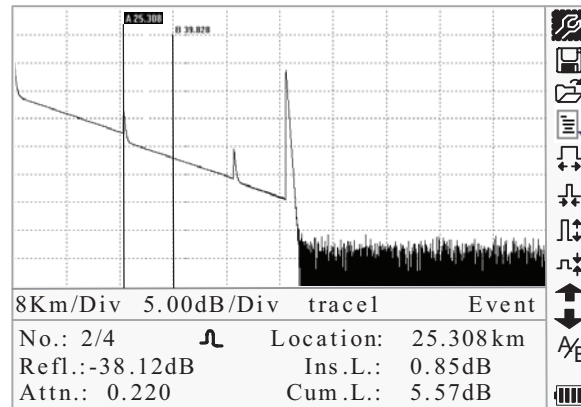
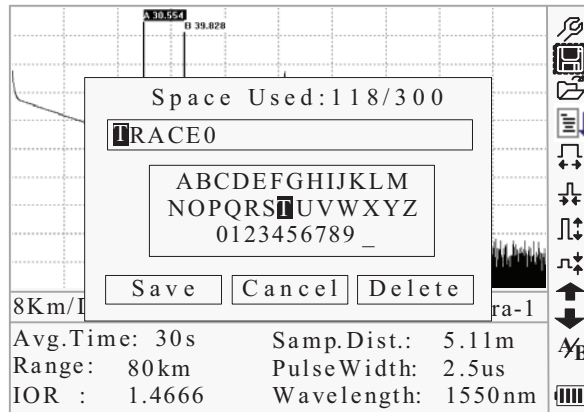
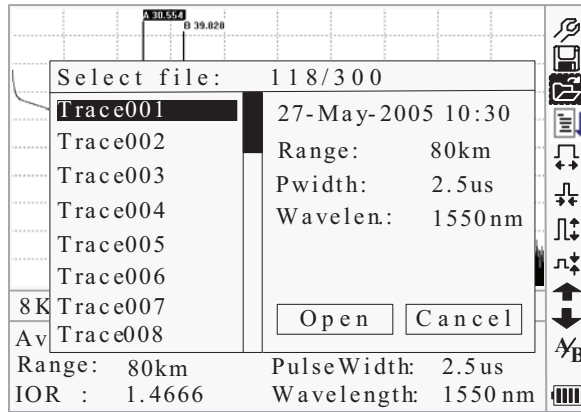

Figure 4-4. Trace Measurement of palmOTDR
Figure 4-5. Save Trace
Figure 4-6. Browse Saved Traces
- After a certain period of time, the trace displays on the GUI. The trace in the Figure below is a trace during measurement, which will be refreshed for every certain period of time to demonstrate the whole process to users in real time. But at the end of measurement, the trace will be final, as shown in Figure 4-4.
Under GUI of Figure 4-4., press [] and the items of information window will display in circulation: measurement parameter→ analysis information→ Event list→ information of marker A/B →fiber →measurement parameter.
Under GUI of Figure 4-4, press [, items in information window will switch to event list information.
Under GUI of Figure 4-4., use [] and [] to highlight ^{A/B}, and then press [Enter] to switch between marker A/B.
Under GUI of Figure 4-4., press [] switch information window to marker A/B.
- Under GUI of Figure 4-4.,use [] and [] to highlight ,then press [Enter] to zoom in trace horizontally; or to zoom in trace horizontally by the combining hot key [**Shift**/]+[] in the keyboard
Under GUI of Figure 4-4., use [▲] and [▼] to highlight , and press [Enter] to zoom out trace. or to zoom out trace horizontally by the combining hot key [Shift/⌘]+[◀] in the keyboard.
- Under GUI of Figure 4-4, press [▲] and [▼] to highlight , then press [Enter] to zoom out trace vertically. or to zoom out trace vertically by the combining hot key [Shift/⌘]+ [▼] in the keyboard.
- Under GUI of Figure 4-4., use [▲] and [▼] to highlight , and then press [Enter] to enter, as shown in Figure 4-5.
Under GUI of Figure 4-4, use [▲] and [▼] to highlight , press [Enter] to confirm, as shown in Figure 4-6.